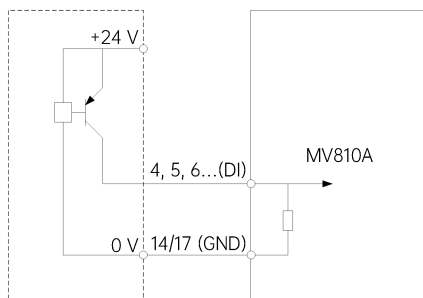

Figure 4-16 Wiring when using the external power supply and the PNP type external controller
- ③ Wiring when the external power supply is used and the external controller adopts the PNP common emitter output, as shown in Figure 4-16.